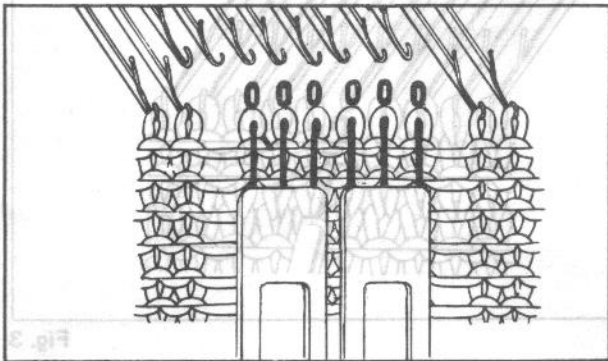

Fig. 2
2. Transfer loops onto two transfer tools. (Fig. 2)